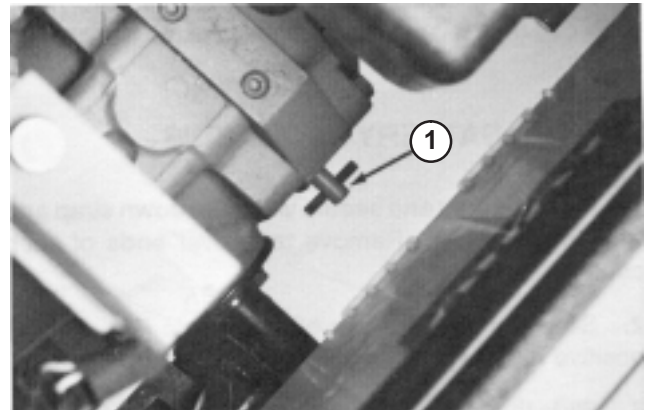

Figure 20
1. Reach under traction unit and rotate bypass valve (Fig. 20) 1/2 to 1 turn counterclockwise. Opening the valve opens an internal passage in the transmission, thereby bypassing transmission oil. Because fluid is bypassed, traction unit can be moved without damaging the transmission.